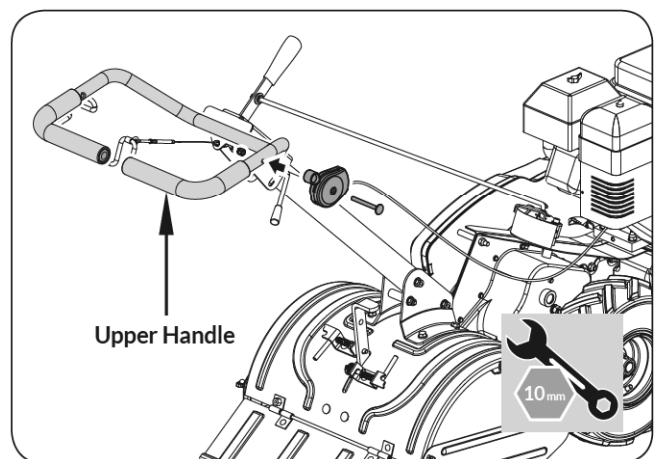

**Figure 3**
1. Insert Lower end of shift rod into hole of shift lever indicator. Fasten with bridge clip and washer. (see **Figure 3, Illustration 1**)
2. Insert the upper end of shift rod into hole of shift lever. Fasten with bridge clip and washer. (see **Figure 3, Illustration 2**)